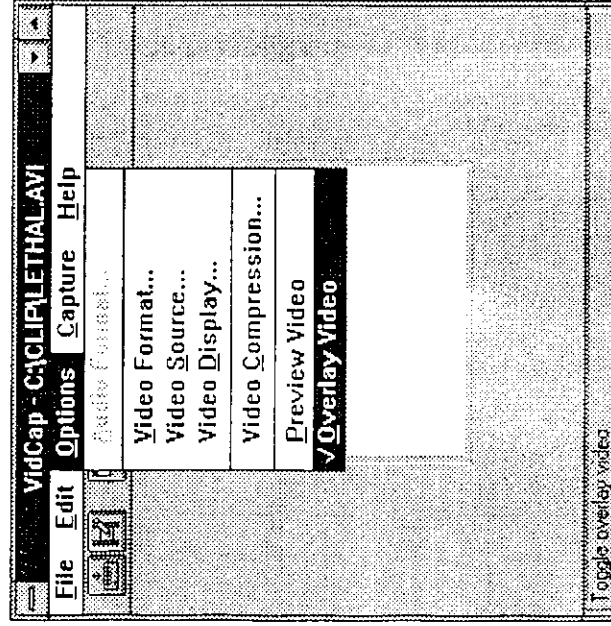

Figure 3-17.
3. In the VidCap program window, CLICK on "Overlay Video" under Options (See Figure 3-17).